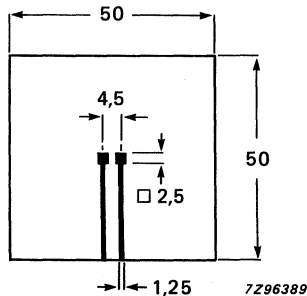

Fig. 2 Mounted on a printed-circuit board.
2. Thermal resistance from junction to ambient; device mounted on an 1,5 mm thick epoxy-glass printed circuit board; Cu-thickness $\geq 40\text{ }\mu\text{m}$ (see Fig. 2)